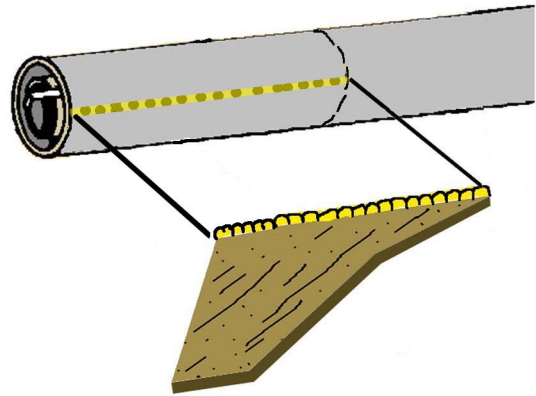

Figure 7
- **Step 11** As shown in Fig. 7, apply a bead of full-strength glue to one of the fin alignment lines, and to the root edge of one fin, directly on top of the existing layer of glue from Step 8. Press the root edge of the fin against the body tube, with the trailing edge of the fin even with the edge of the body tube. Hold the fin in place for about 12 seconds before releasing it. Use a moist, soft-bristle brush to smooth down the glue which squeezes out from the joint. Slide one or more alignment guides over the tube and down over the fin, carefully adjusting the angle to fit the slot. Allow this to dry about 20 minutes, then repeat this sequence for each remaining fin.